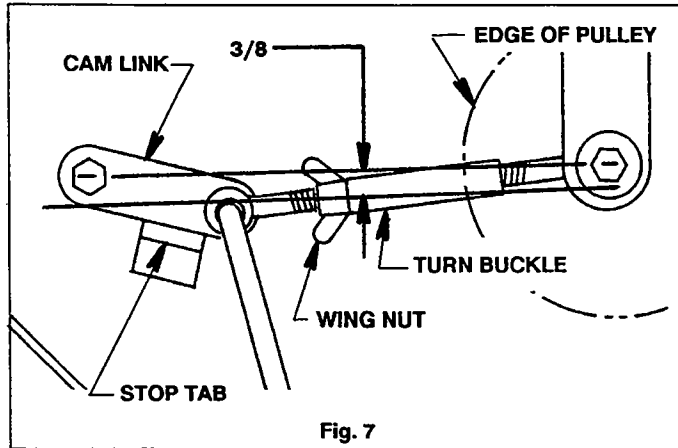
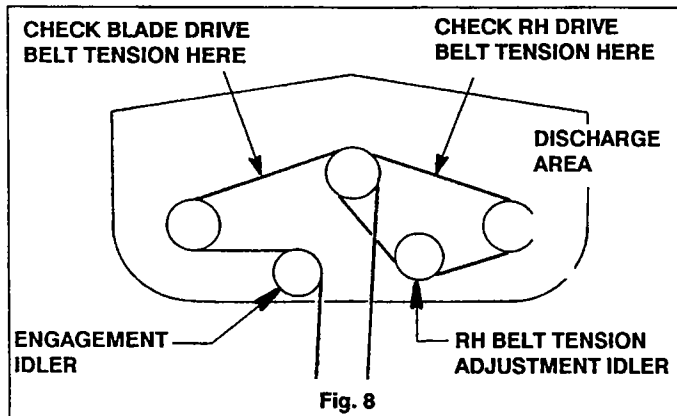

Fig. 7
Fig. 8
1. Engage blade clutch lever and check for proper over center clearance. There should be about 3/8" between rod and straight edge (see fig. 7). Bend the stop tab to adjust clearance.
2. Adjust belt tension so that the belt moves 1/2" with 10 lbs. of pressure applied between the center and left spindle pulleys (see fig. 8). Adjustment is made by loosening the wing nut and tightening/loosening the turn buckle (see fig. 7). Belt driving right spindle should be checked the same way. Adjust with J-rod on RH belt tension adjustment idler.